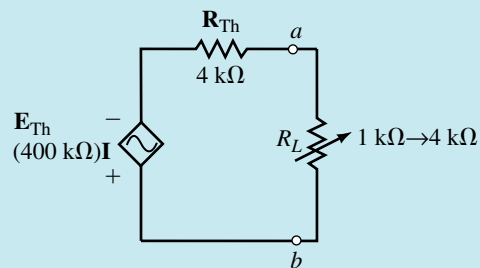

FIGURE 20–39
Step 5: Because the Thévenin voltage is a dependent voltage source we use the appropriate symbol when sketching the equivalent circuit, as shown in Figure 20–39.